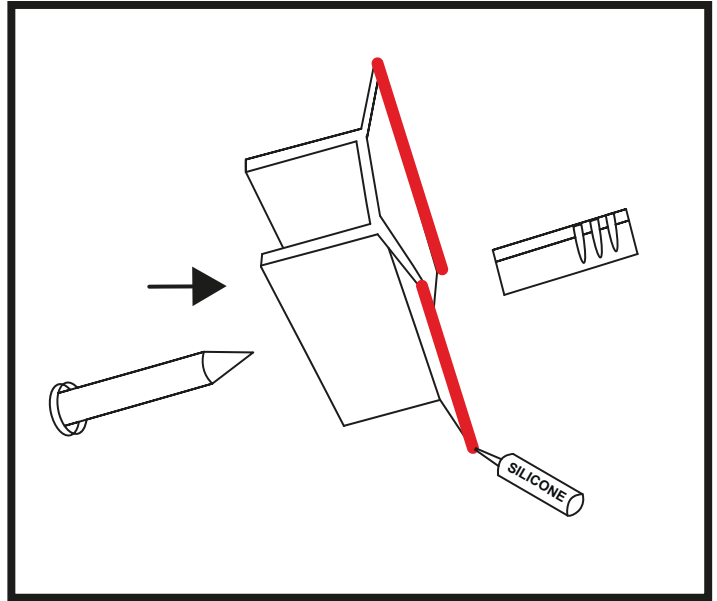

Figure 12
33. To attach the profile, apply silicone to the edges of the profile and place it on the wall, according to the previously marked locations. (Figure 12)